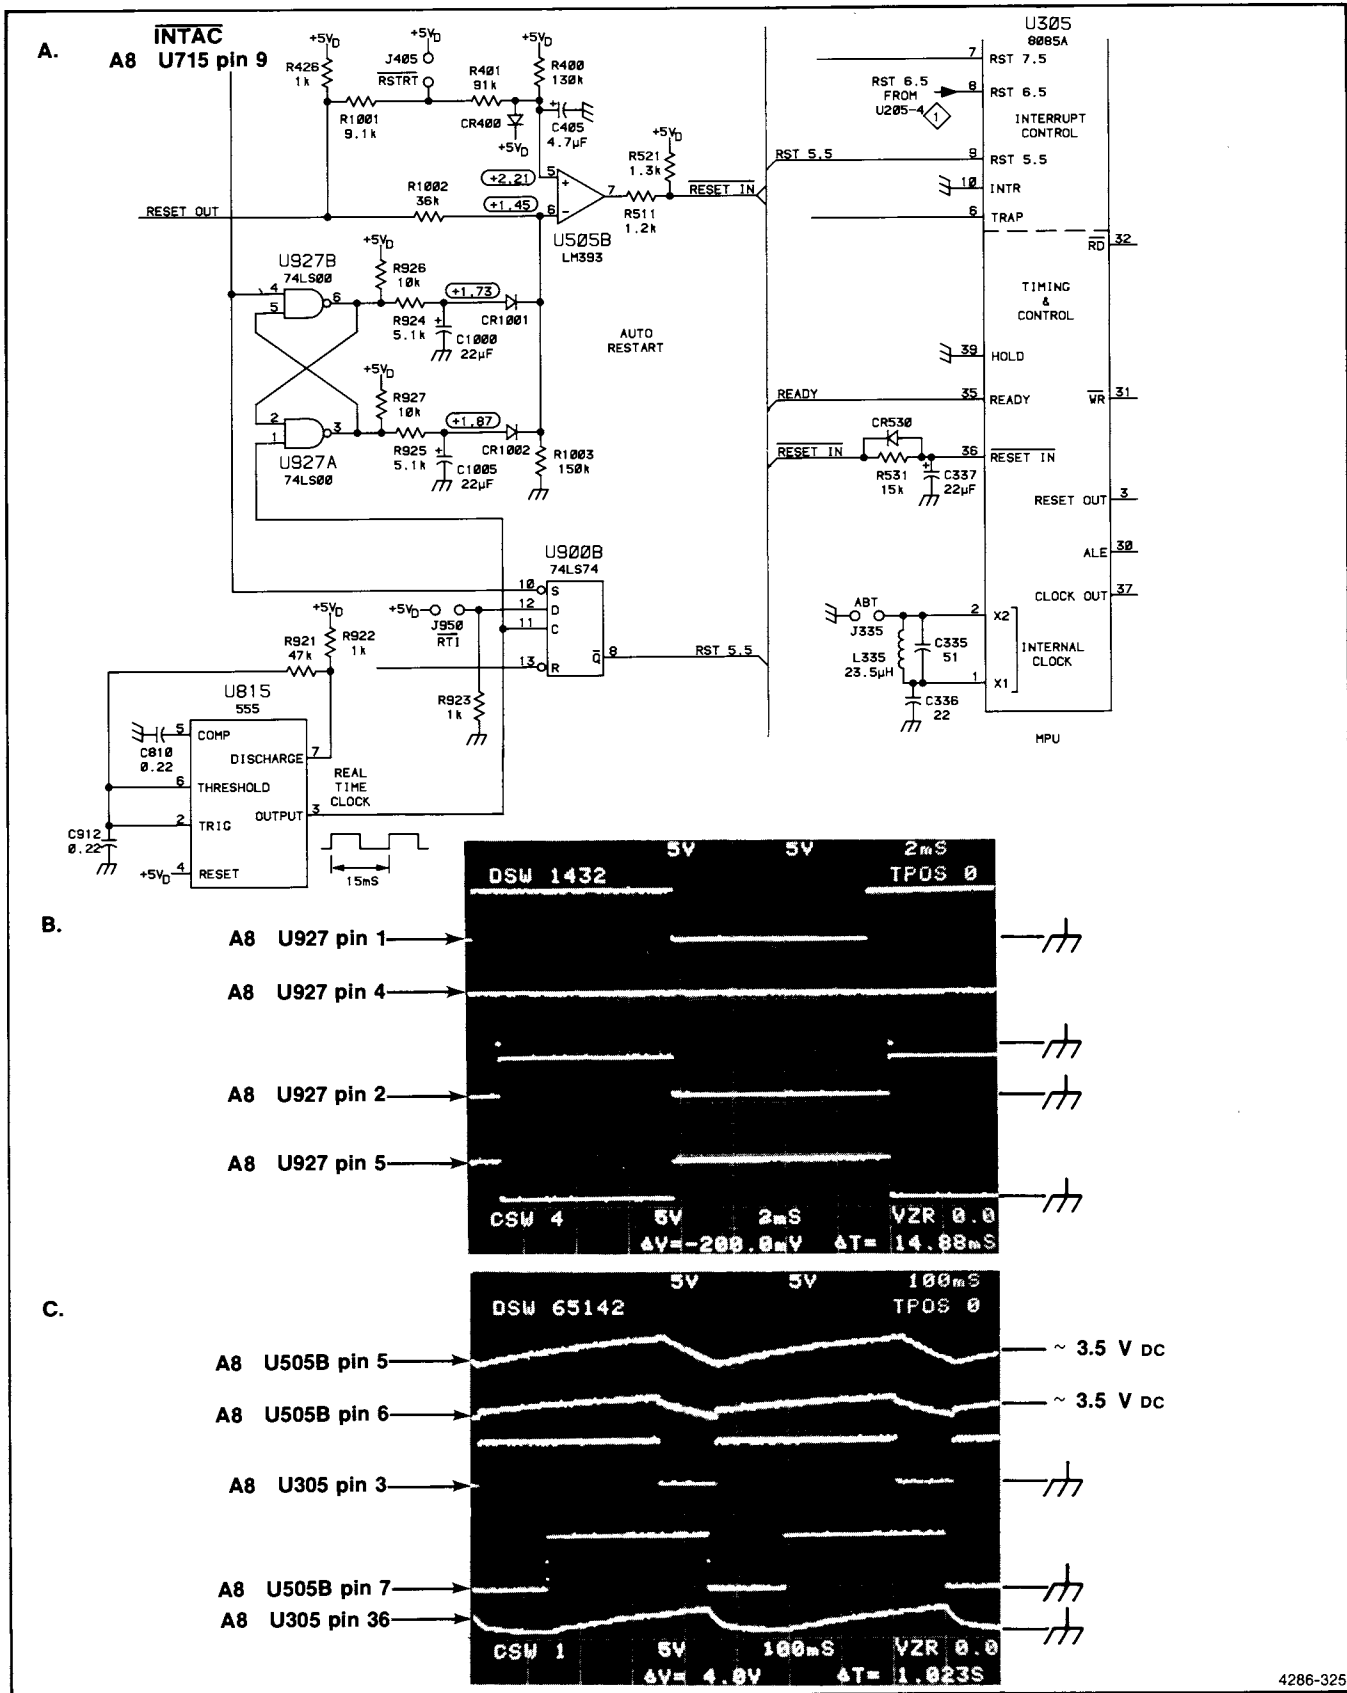

Figure 3-12. (A) Partial A8 CPU diagram: auto-restart circuit, (B) waveforms when operating normally, and (C) waveforms when kernel has failed.
- c. Auto Restart Circuit Failure—refer to Figure 3-12 for typical circuit operation.